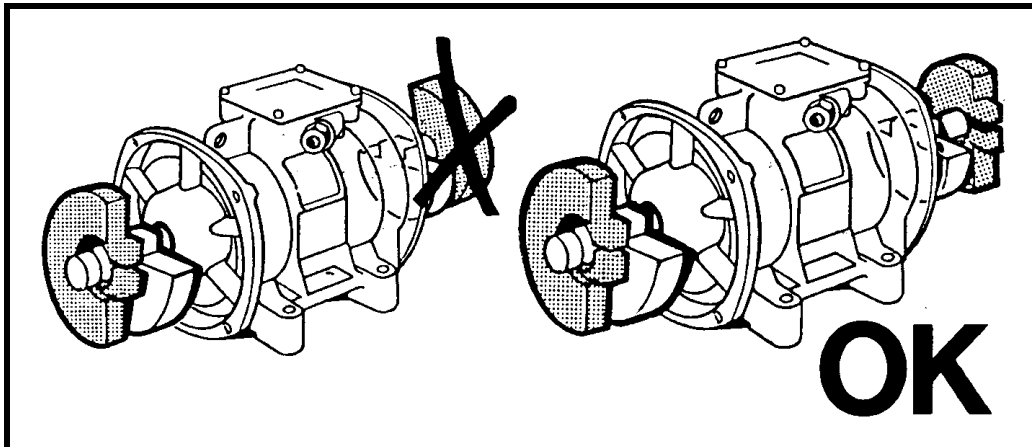

Figure 4. Setting Sets of Eccentric Weights to Mirror Images
7. Repeat steps 2 through 5 for second set of weights. Set both sets of weights to same setting number so they are mirror images, as shown in Figure 4.